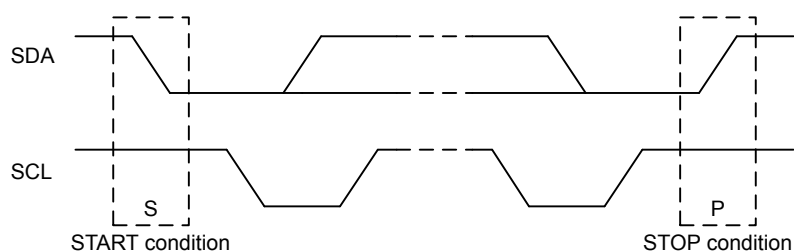

Figure 17.4. I²C START and STOP Conditions
START and STOP conditions are used to initiate and stop transactions on the I²C-bus. All transactions on the bus begin with a START condition (S) and end with a STOP condition (P). As shown in Figure 17.4 I²C START and STOP Conditions on page 560, a START condition is generated by pulling the SDA line low while SCL is high, and a STOP condition is generated by pulling the SDA line high while SCL is high.